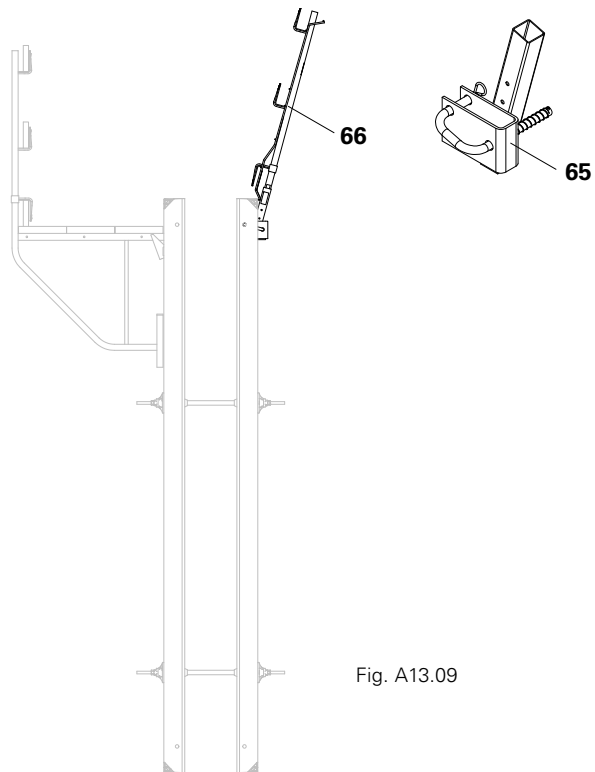

Fig. A13.09
- Guardrail Post Holder TRIO (65)
- Handrail Post HSGP (66)
- (Fig. A13.09)